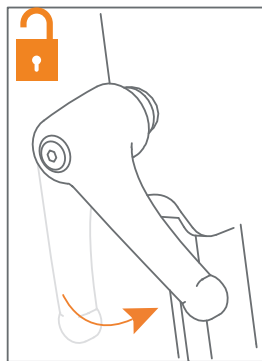
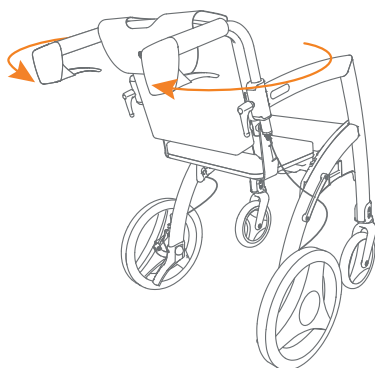
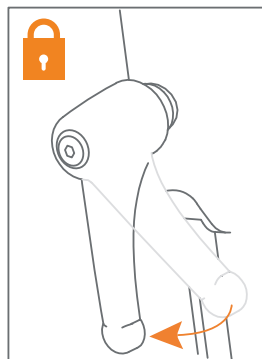

Figure 36: Loosen the adjustment handles.
Figure 37: Turn handles.
Figure 38: Tighten the adjustment handles.
- d. Loosen the adjustment handles counterclockwise (**Figure 36**) and turn the handles around via the outside, until they are pointing towards the back (**Figure 37**). Adjust the height for the person pushing the transport chair and turn the adjustment handles clockwise to tighten (**Figure 38**). See **Adjusting the height for correct posture**.